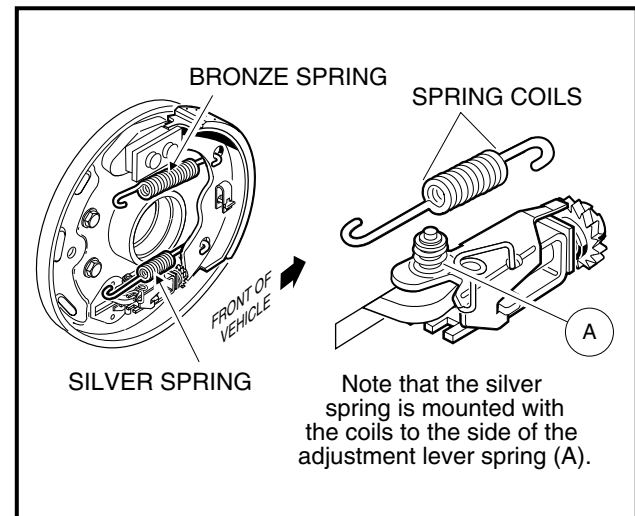

**Figure 6-12 Trailing Shoe**
1. Turn the adjusting wheel screw so the shoe slot is vertical, then position the trailing shoe in the slots in the shoe mounting block and adjuster assembly (Figure 6-12, Page 6-6). See following NOTE.
**NOTE:** The trailing shoe has 17T stamped into the tip of the shoe flange (**Figure 6-12, Page 6-6**). The leading shoe is stamped 17L. When installing the shoes, the stampings on both shoes should be oriented to the top of the brake assembly. When installing the shoes on the passenger side of the vehicle, the side of the trailing shoe flange marked 17T should be facing out and be visible. On the driver side, the 17L on the leading shoe should be facing out and be visible.